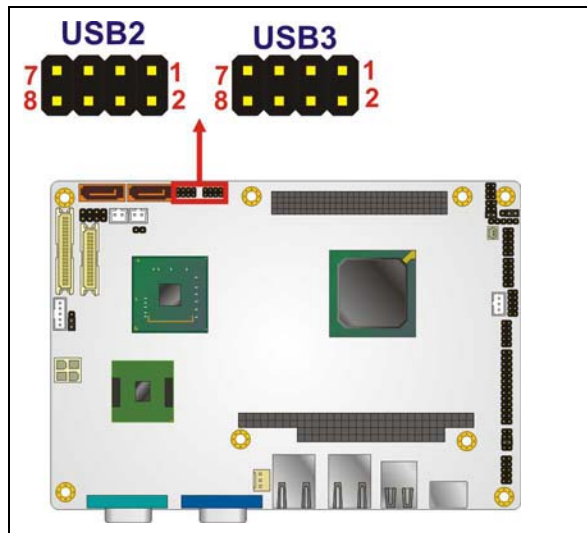

Figure 3-22: USB Connector Pinout Locations
- CN Location:** See **Figure 3-22**